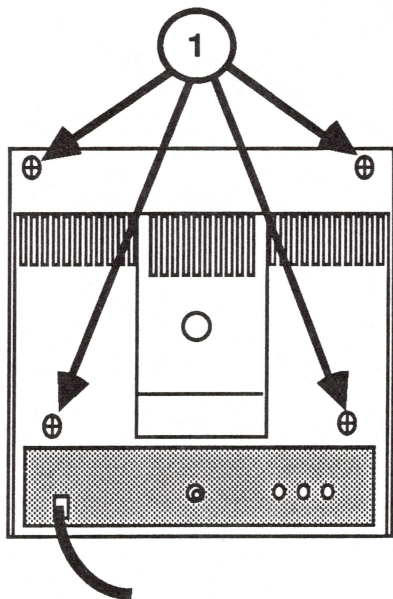

FIGURE 31
4. Replace the four screws (Figure 31, #1) at the back of the monitor.